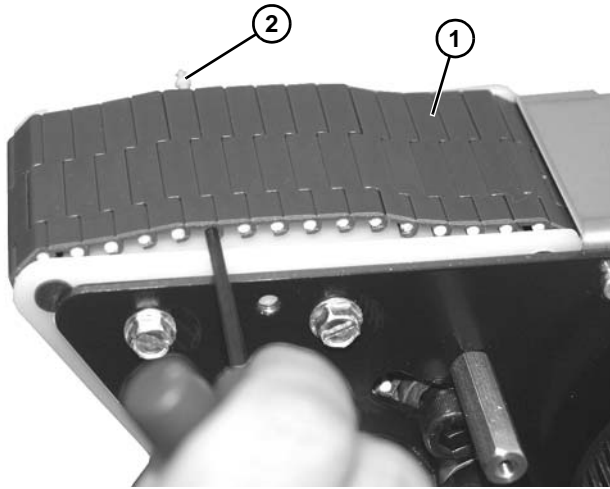

**Figure 106**
6. Remove two socket head screws (**Figure 106, item 1**) and tensioner plate (**Figure 106, item 2**).